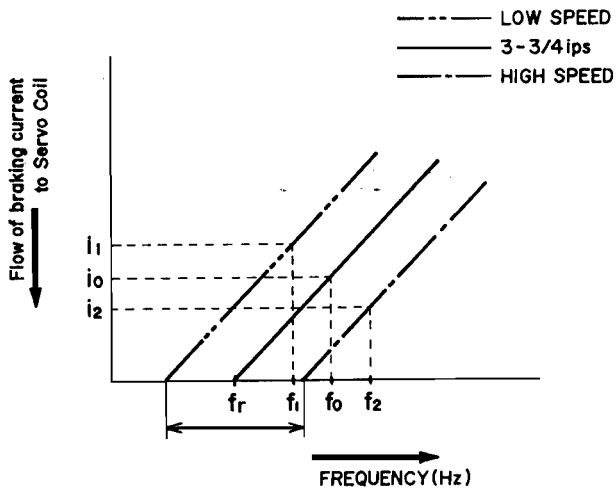

Fig. 29
6. In case of the capstan motor revolutions having reached the speed of n_2 , the detector signal produced at the detector coil surpasses f_0 and advances toward the higher f_2 frequency. (See Figs. 29, 30) Accordingly, the flow of current to the servo coil increases, and because the electro-magnetic braking supplied to the capstan motor is increased, the capstan motor revolutions become slower, and normal revolutions are regained.
7. In case of the capstan motor revolutions having slowed to n_1 , the detector signal produced at the detector coil drops to lower than f_0 and descends toward the low f_1 frequency. (See Figs. 29, 30) Accordingly, the flow of current to the servo coil decreases, and because the electro-magnetic braking supplied to the capstan motor is decreased, the capstan motor revolutions speed up and normal revolutions are regained.
As shown in Fig. 29, resonance frequency f_r (between the arrow mark) is changed by adjusting the dust core of discriminator coil L1 (VI2031SC-01). Accordingly, f_0 is also changed between f_1 and f_2 , and the flow of braking current (i_0) to the servo coil is also changed between i_1 and i_2 . Consequently, correct tape speed can be attained by using a tape speed measuring tape and a Frequency Counter and adjusting the dust core of coil L1.